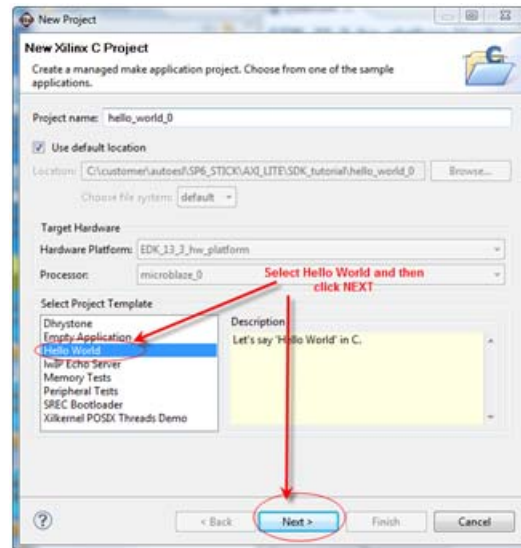

Figure 1-23: Select Hello World
5. Select the **Hello World** application as a starting point from the project templates and click **Next**, as shown in Figure 1-23.